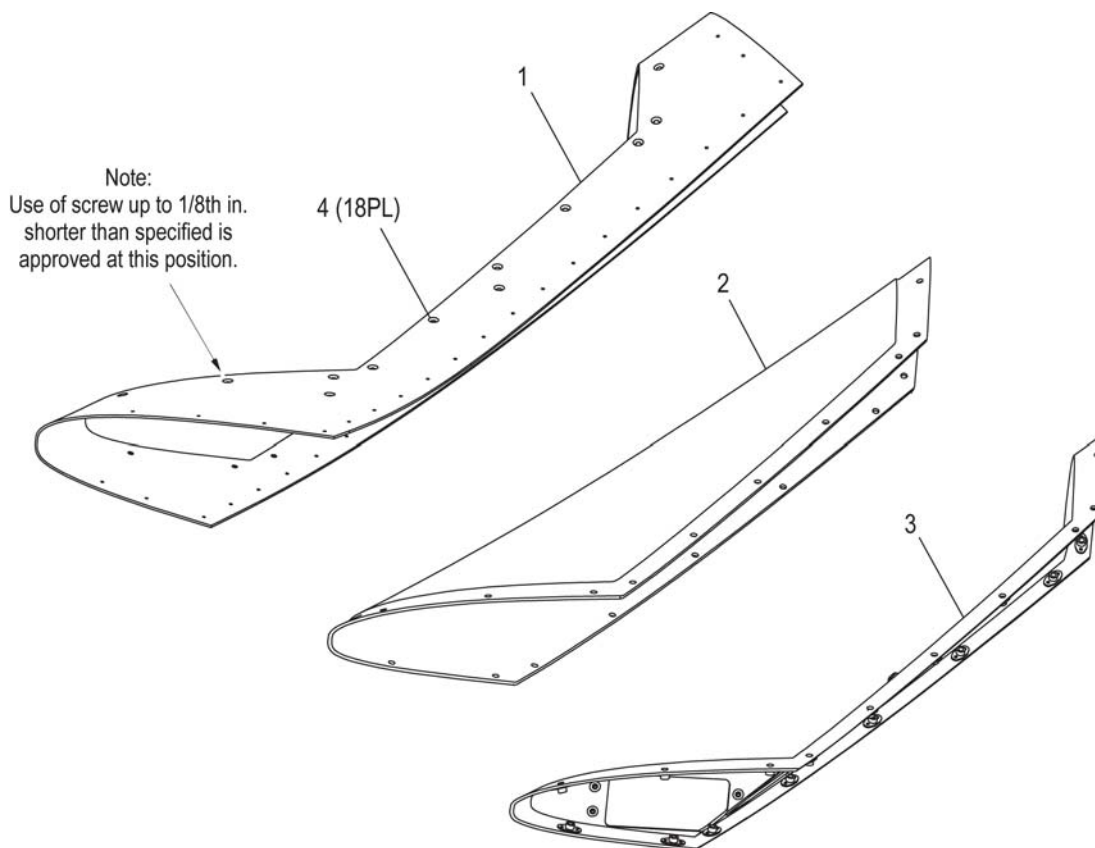

FIGURE 401:
4. Leading Edge Lens Assembly Removal (Refer to Figure 401)
- (1) Remove the 18 screws (4) that attach the leading edge (1) to the lens retaining frame (3).
- (2) Remove the lens retaining frame (3).
- (3) Carefully pry the polycarbonate lens (2) away from the leading edge.
5. Leading Edge Lens Assembly Installation (Refer to Figure 401)
CAUTION: DUE TO VARIATIONS IN THE MANUFACTURING PROCESS OF THE LEADING EDGE / LIGHT ASSEMBLY, THE SPECIFIED FASTENER NEAR THE MIDDLE OF THE NAVIGATION LIGHT ASSEMBLY MAY BE TOO LONG. DO NOT FORCE A LONG SCREW INTO THIS HOLE. DAMAGE TO THE NAVIGATION LIGHT ASSEMBLY MAY RESULT. USE OF A SCREW UP TO 1/8 INCH SHORTER IS APPROVED AT THIS POSITION (SEE FIGURE 401).